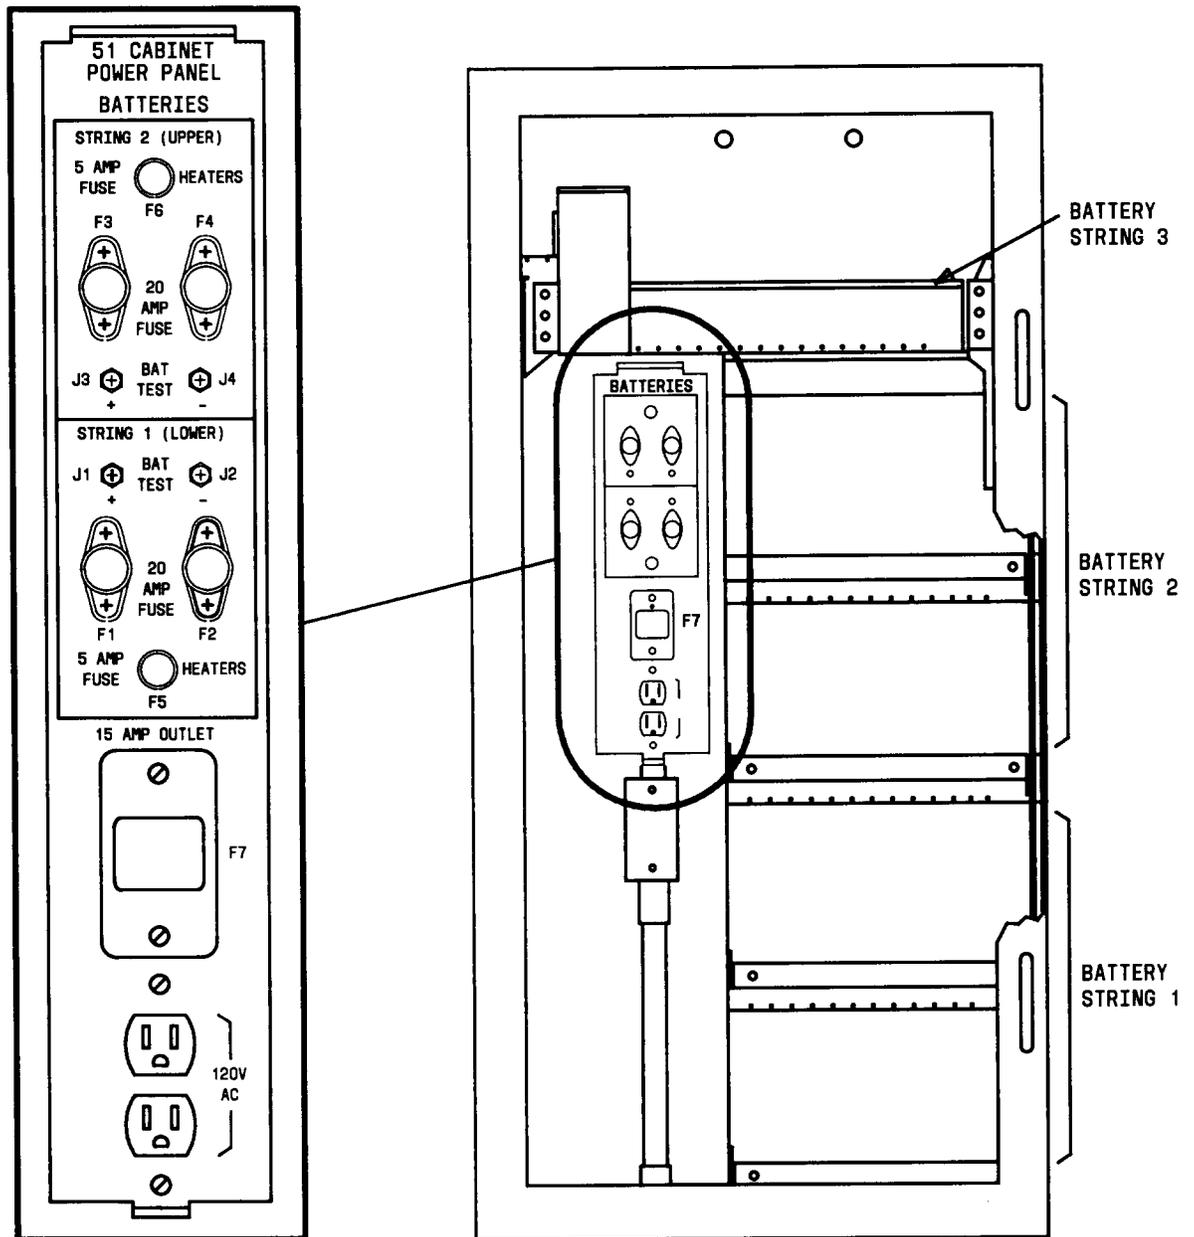

Fig. 2—Battery Section of 51A Cabinet Showing Control Box Assembly
6. **Note:** If second (upper) string of batteries (Figure 2) will not be installed, fuse F6 is not required.